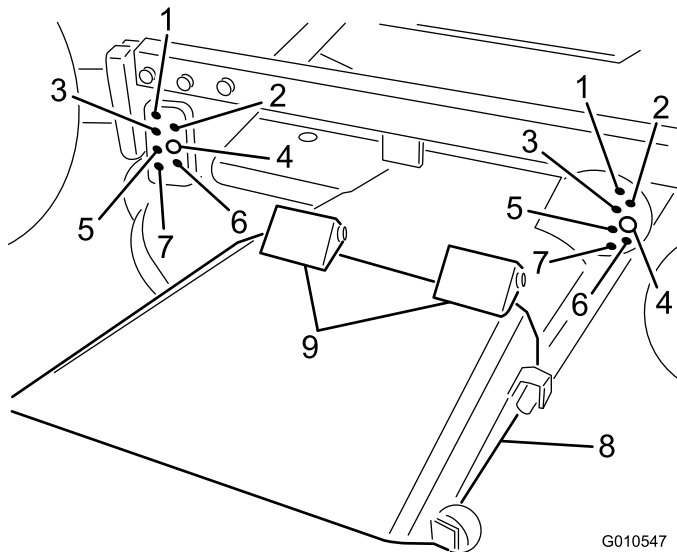

Figure 9
7. Lower the carrier frame and install 4 clevis pins through the desired height-of-cut bracket holes and frame brackets. Secure all 4 pins with hairpin cotters (Figure 9).